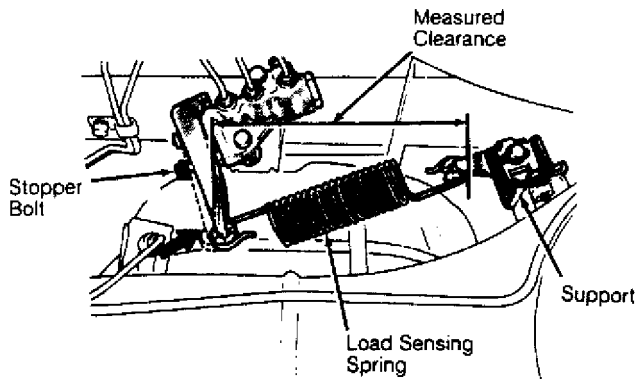

Fig. 2: Adjusting Load-Sensing Proportioning Valve Spring (Montero, Pickup & Ram-50)
Park vehicle on level surface. Remove excess weight from vehicle. Ensure lever is not against stopper bolt. Check spring length. If spring length is not correct, adjust cable or support until correct length is obtained. See the LOAD-SENSING SPRING LENGTH table. See Fig. 2.
4) On Montero, disconnect spring at support and pull spring and lever toward support until spring length is 8.9" (226 mm). See Fig. 2. Without depressing brake pedal, check readings on pressure gauges. See LSPV PRESSURE SPECIFICATIONS table. Push lever away from support until spring length is 10.1" (257 mm). Without depressing brake pedal, check readings on pressure gauges. If fluid pressure is not within specification, replace LSPV assembly.
5) On Pickup and Ram-50, remove load-sensing spring. See Fig. 2. Slowly depress brake pedal. Check readings on pressure gauges. See LSPV PRESSURE SPECIFICATIONS table. Install load-sensing spring. Load weight into rear of vehicle until measured spring length is 7.0" (178 mm) with lever pressed in slightly.